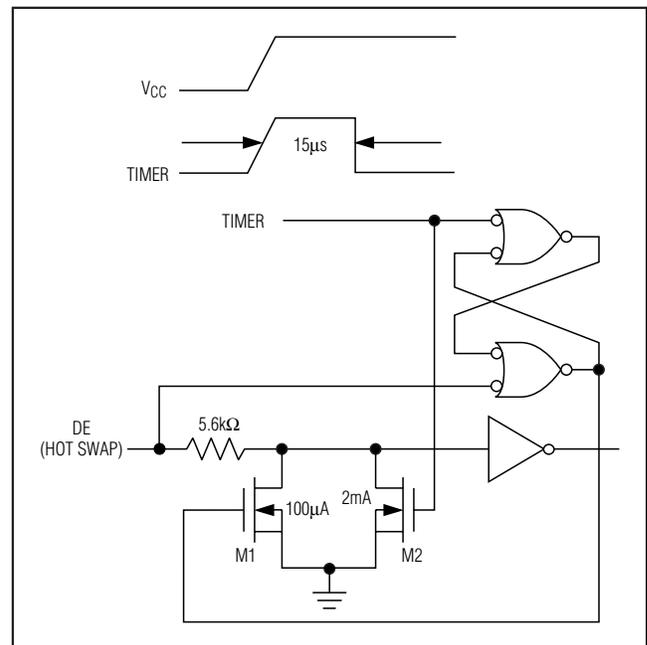

Figure 10. Simplified Structure of the Driver Enable Pin (DE)
At the driver-enable input (DE), there are two NMOS devices, M1 and M2 (Figure 10). When VCC ramps from zero, an internal 15 μ s timer turns on M2 and sets the SR latch, which also turns on M1. Transistors M2, a 2mA current sink, and M1, a 100 μ A current sink, pull DE to GND through a 5.6k Ω resistor. M2 pulls DE to the disabled state against an external parasitic capacitance up to 100pF that may drive DE high. After 15 μ s, the timer deactivates M2 while M1 remains on, holding DE low against three-state leakage currents that may drive DE high. M1 remains on until an external current source overcomes the required input current. At this time, the SR latch resets M1 and turns off. When M1 turns off, DE reverts to a standard, high-impedance CMOS input. Whenever VCC drops below 1V, the input is reset.